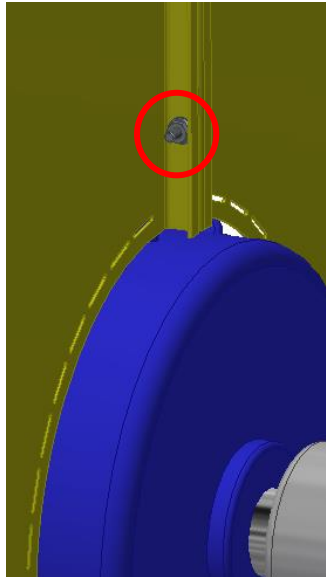

Figure 25: Machine Guard Motor Panel Bolt
- Install the provided 1/4-20 hardware above the motor on the inside of the guard as shown below (Figure 25).